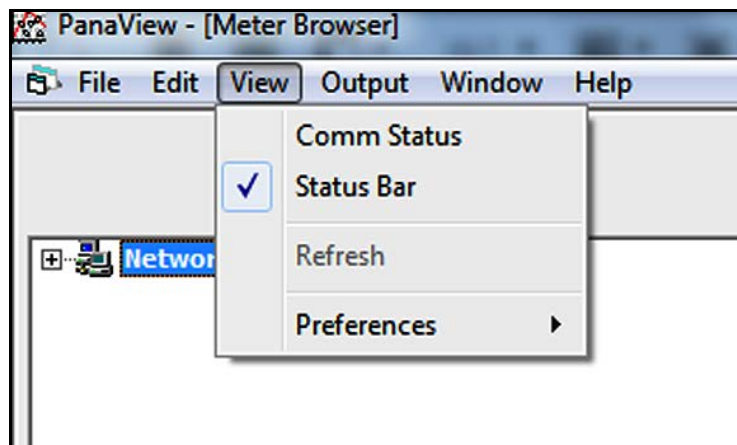
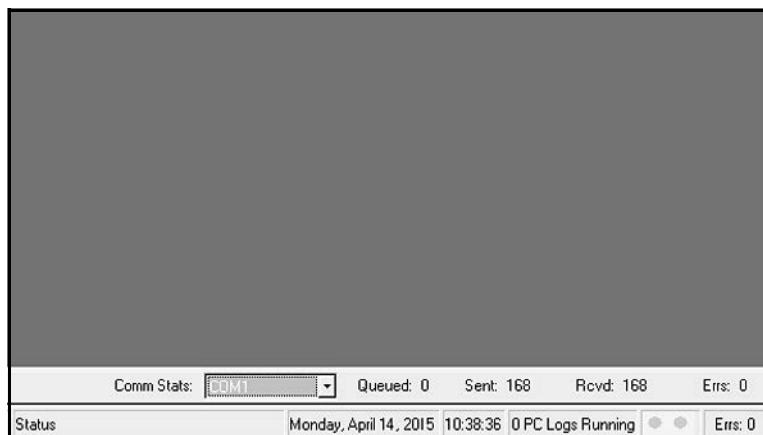

Figure 12: The View Menu
Figure 13: The Comm Status Bar
- **Status Bar** – by default on initial startup, it shows status messages (see *Figure 13* on page 11) such as: date, time, number of active logs, and number of communication errors (from left to right)
Prior to setting up communications with a meter, the “*View*” menu (see *Figure 12* below) provides three options for customizing the PanaView interface:
This option permits the user to toggle a communications status bar ON and OFF. The default state is “Off” as indicated by the absence of a check mark in *Figure 12 on page 10*. When toggled “On”, the Comm Status bar appears just above the main Status bar (see *Figure 13 below*) and displays the following serial communications categories, from left to right:
Note: To make the image in *Figure 13* more readable on this page, the window was compressed horizontally from its actual dimensions.
The main Status bar shown in *Figure 13 on page 11* is always visible when PanaView is first started. However, it may be toggled on and off at any time during a PanaView session by selecting or deselecting it in the “View” menu. Its current state is indicated by the absence or presence of a check mark to its left in the View menu.
To access the “Preferences” option (see *Figure 12 on page 10*), click on it in the “View” menu. Then, click on any of the tabs and proceed to the appropriate section for instructions.